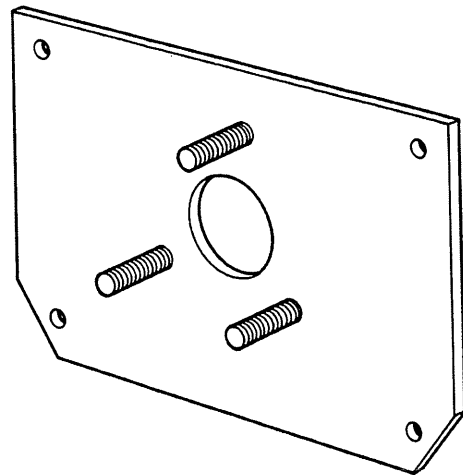

Fig. 31
- Adaptor plate, No. 3378013 M1, to be used with lifting bracket (Fig. 31).